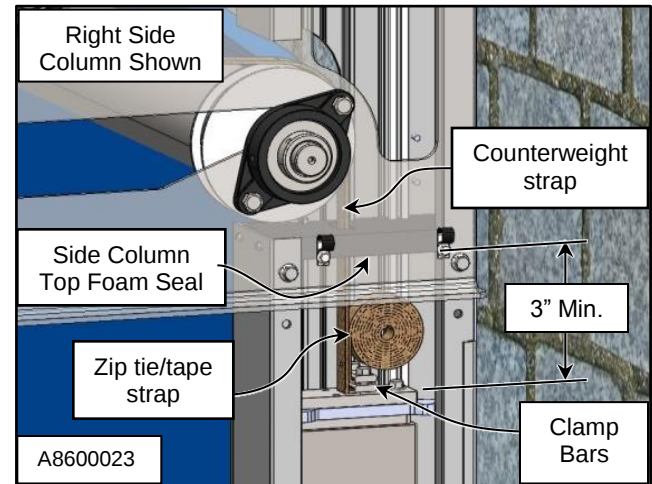

Figure 42
NOTE: The 8 to 10 in. dimension shown in Figure 42 is adequate for most Turbo-Seal Insulated doors. However, for some very wide or short doors, the counterweight may have to be adjusted closer to the bottom of the side column. Also, make sure the counterweight guides are properly positioned.
6. Loosen the clamp bars that secure the strap to the counterweight. (See Figure 42)